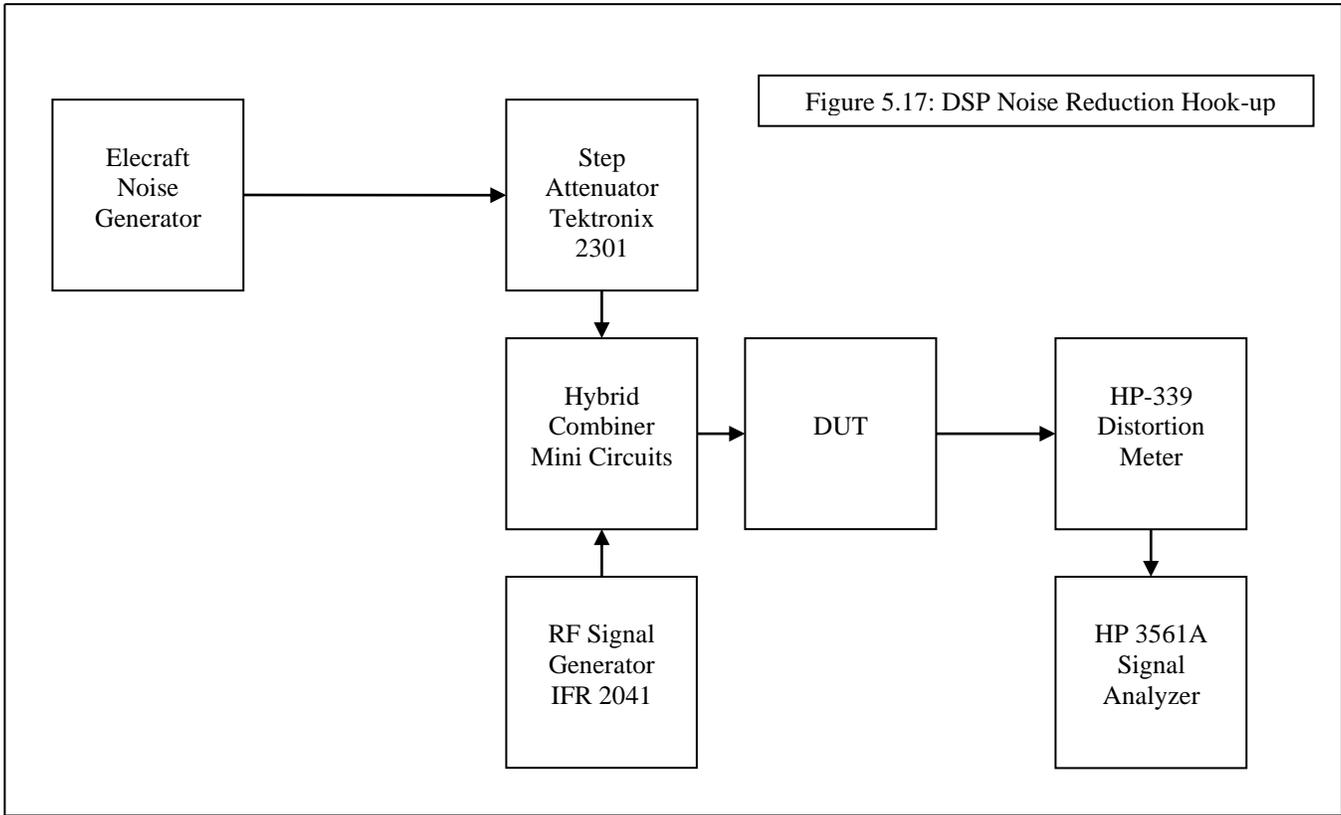

Figure 5.17: DSP Noise Reduction Hook-up
5.17.2 Test Hook-up (See FIGURE 5.17)